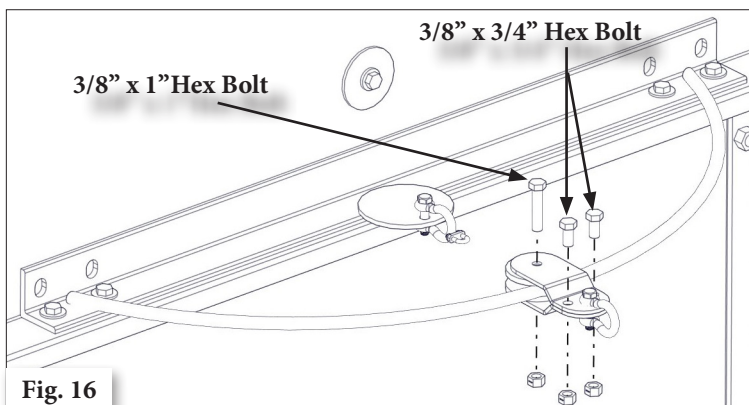

Fig. 16
- Secure the 1/2" Black Pulley Assembly to the Curved Rod Weldment as shown in Fig. 16 using a 3/8" x 1" hex bolt, (2) 3/8" x 3/4" hex bolts and (3) 3/8" centerlock hex nuts.
- Secure a 5/16" Shackle to the Pulley Assembly as shown in Fig. 16.